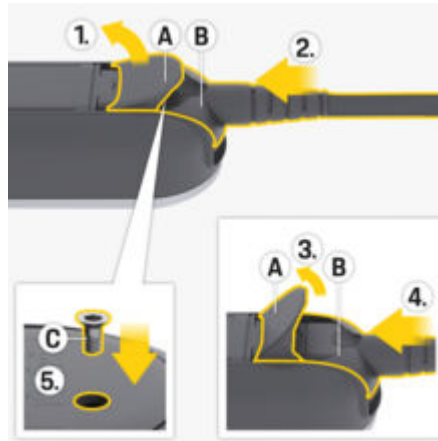

Fig. 14: Securing the supply cable and plug
1. Open cover **A** (Fig. 14) by around 15 degrees (only as far until plug **B** (Fig. 14) fits in the control unit).
2. Insert plug **B** (Fig. 14) into the control unit until you feel initial resistance.
3. Fully open cover **A** (Fig. 14).
4. Push plug **B** (Fig. 14) in fully.
5. Fully close cover **A** (Fig. 14) and fasten using screw **C** (Fig. 14).